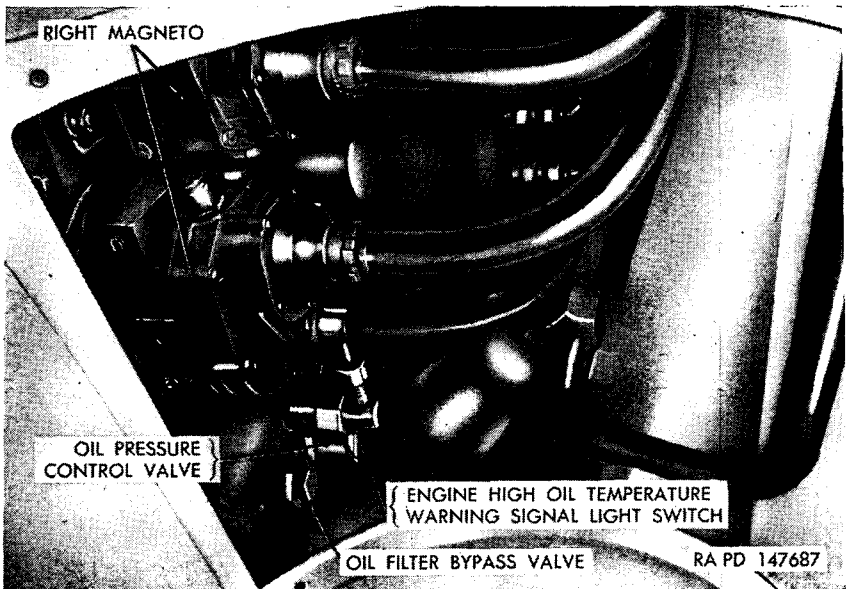

Figure 107. Oil pressure control valve—left bulkhead inspection plate removed.
a. **REMOVAL AND DISASSEMBLY** (figs. 107 and 108). Removal can be made with the power plant installed in the vehicle by gaining access through the bulkhead. Access can be obtained by removing the left